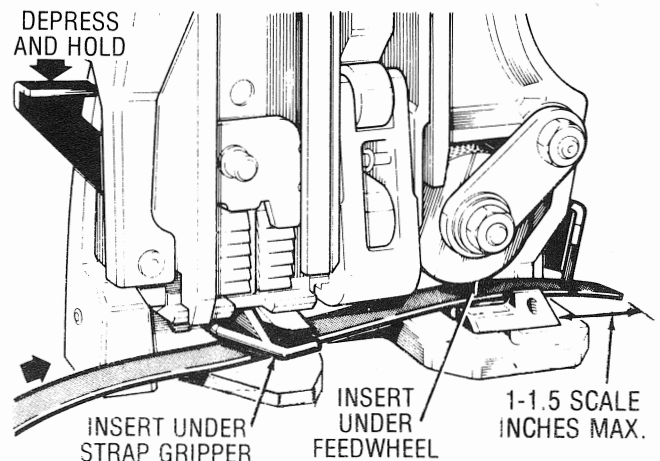

FIGURE NO. 2
2. Encircle the package with the strap. Depress and hold GRIPPER LEVER (KEY #60). Insert bottom strap lead end under the FEEDWHEEL (KEY #26) beyond the STRAP GUIDE (KEY #40), with the back portion underneath the STRAP GRIPPER (KEY #59). Release GRIPPER LEVER (KEY #60) to hold bottom strap in place. (SEE FIGURE NO. 2.)